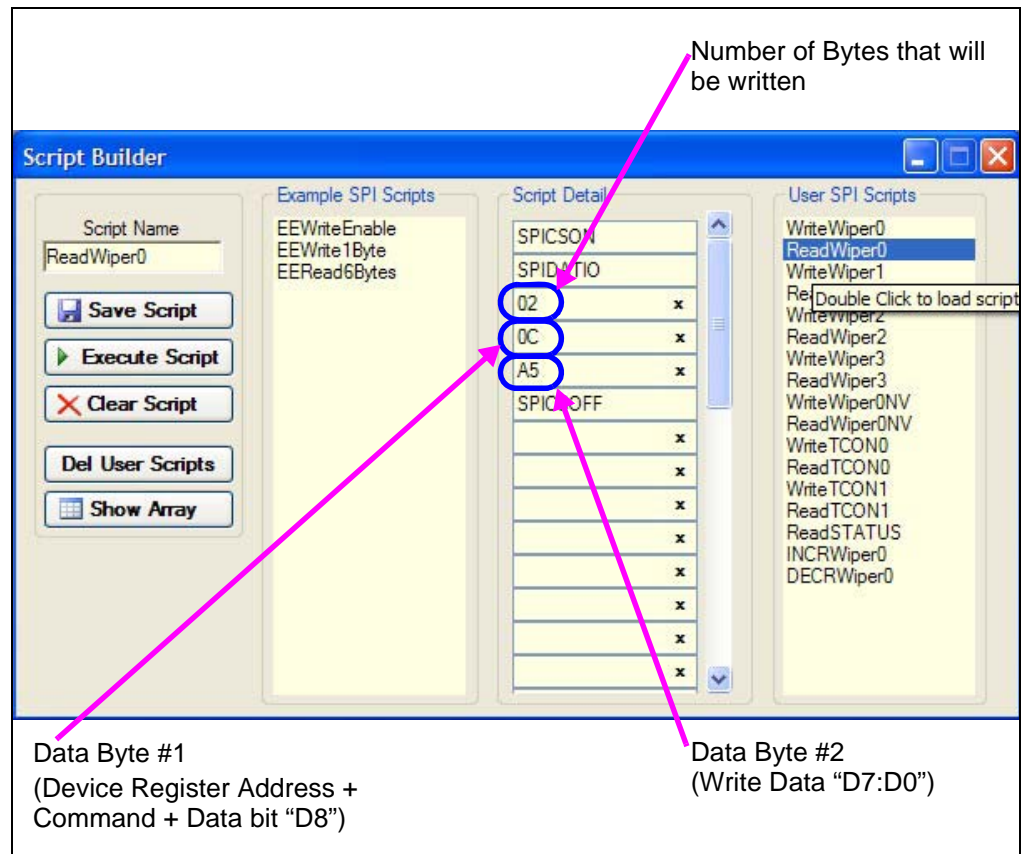

FIGURE 2-11: Example Read Script.
Double clicking on the ReadWiper0 User SPI Script will load the Script Details. Figure 2-11 shows what the values mean in the Script Details. These values are hex numbers.
11. Select the “ReadWiper0” script in the User SPI Scripts column. It should look like Figure 2-11.
15. Select the “ReadWiper0” script in the User SPI Scripts column. It should look like Figure 2-11.